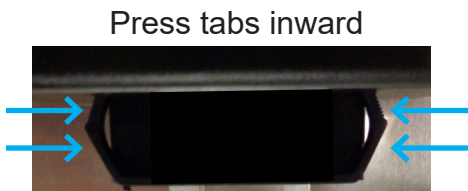

Figure 1
- 4) To release the battery meter from the CooLift enclosure, reach underneath the enclosure and find the tabs located on both sides of the meter (see Figure 1). Squeeze the tabs inward and ease the battery meter upward and out of the enclosure.